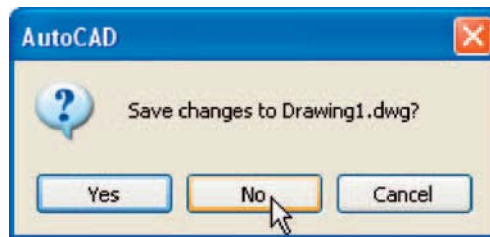

Fig. 2.5 The **AutoCAD** warning window
2. The warning window Fig. 2.5 appears in the centre of the screen. Click its **No** button.